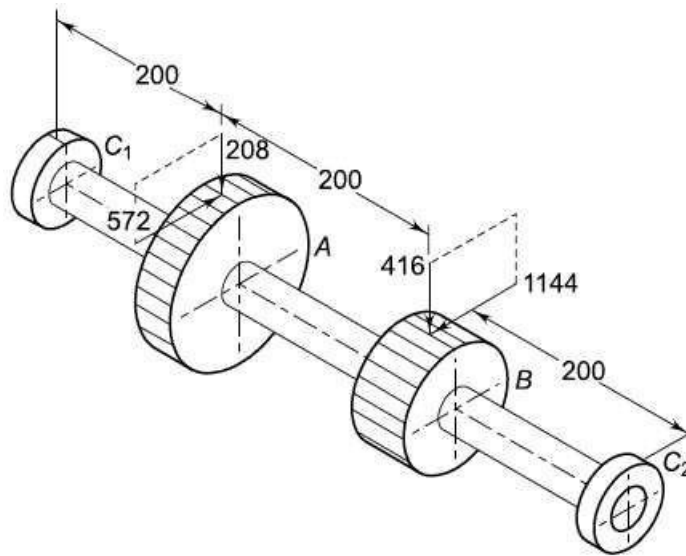

Figure 7.1
5. An intermediate shaft of a gearbox, supporting two spur gears A and B and mounted between two bearings C_1 and C_2 , is shown in Fig.7.1 The pitch circle diameters of gears A and B are 500 and 250 mm respectively. The shaft is made of alloy steel 20MnCr5. ($S_{ut} = 620$ & $S_{yt} = 480 \text{ N/mm}^2$). The factors k_b and k_t of the ASME code are 2 and 1.5 respectively. The gears are keyed to the shaft. Determine the shaft diameter using the ASME code.